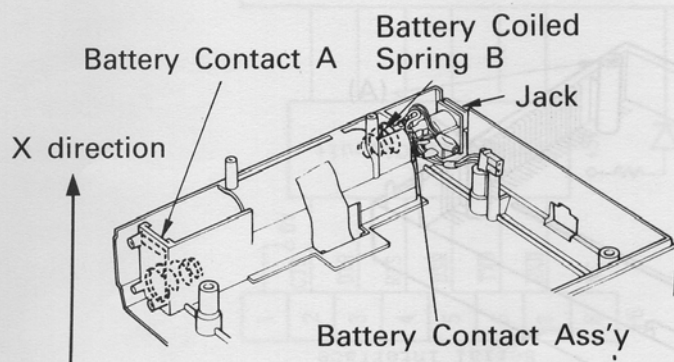

Fig. 3-10
2. Move battery contact A in the X direction for removal (Fig. 3-10).